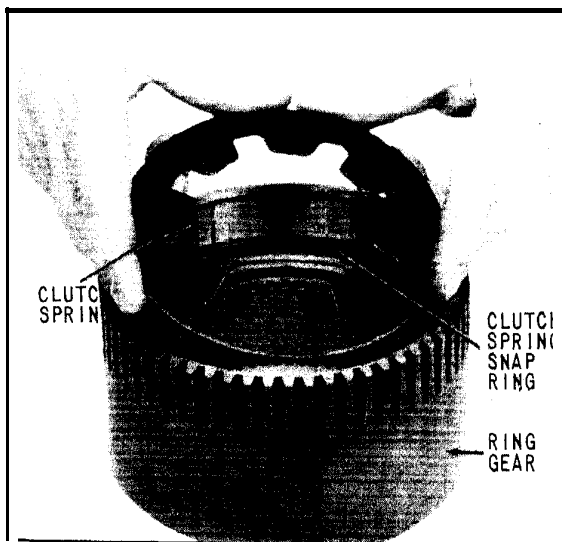

Fig. 38 Installing Clutch Spring
24. With the concave side of the clutch spring down, install in ring gear, as shown in (Fig. 38). Assembly is complete when the clutch spring is seated firmly and squarely on clutch snap ring.